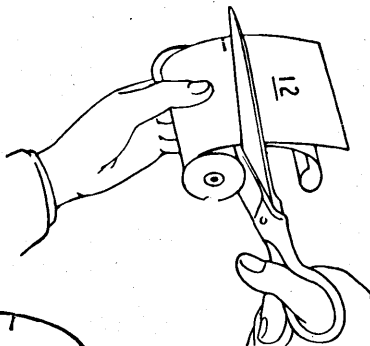

Fig. 1.
a. Unroll the film and cut the exposures apart as shown in Fig. 1.